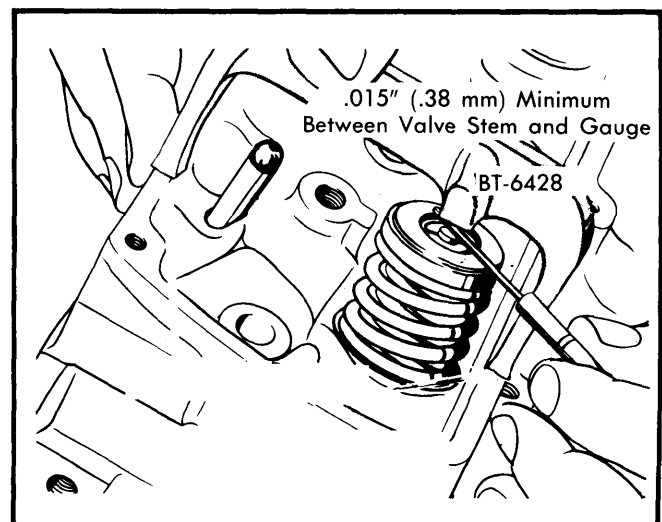

Fig. 4 Measuring Valve Stem Height
2) Measure valve stem height whenever new valve is installed or after grinding valves. Use stem height gauge J-25289 as shown in Fig. 4. There should be at least .015" (.38 mm) clearance between gauge and valve stem. If clearance between is less than .015" (.38 mm) grind tip as required, making sure end is ground 90° to stem.